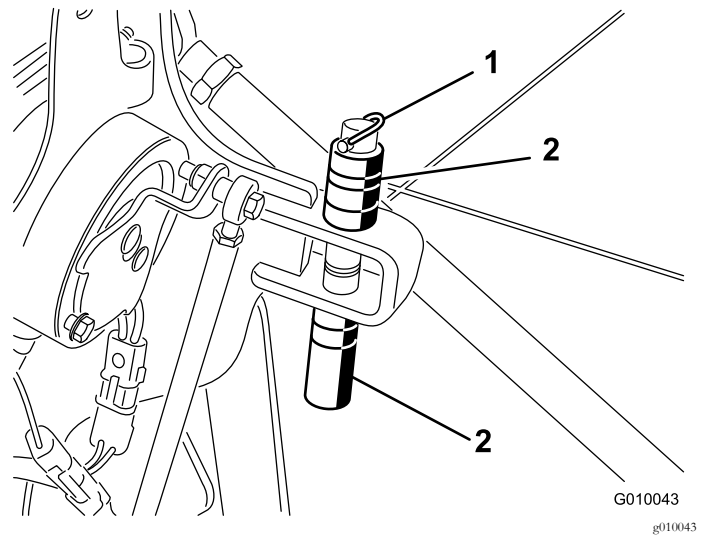

Figure 28
2. Remove the lynch pin retaining the spacers and depth pins (Figure 28).